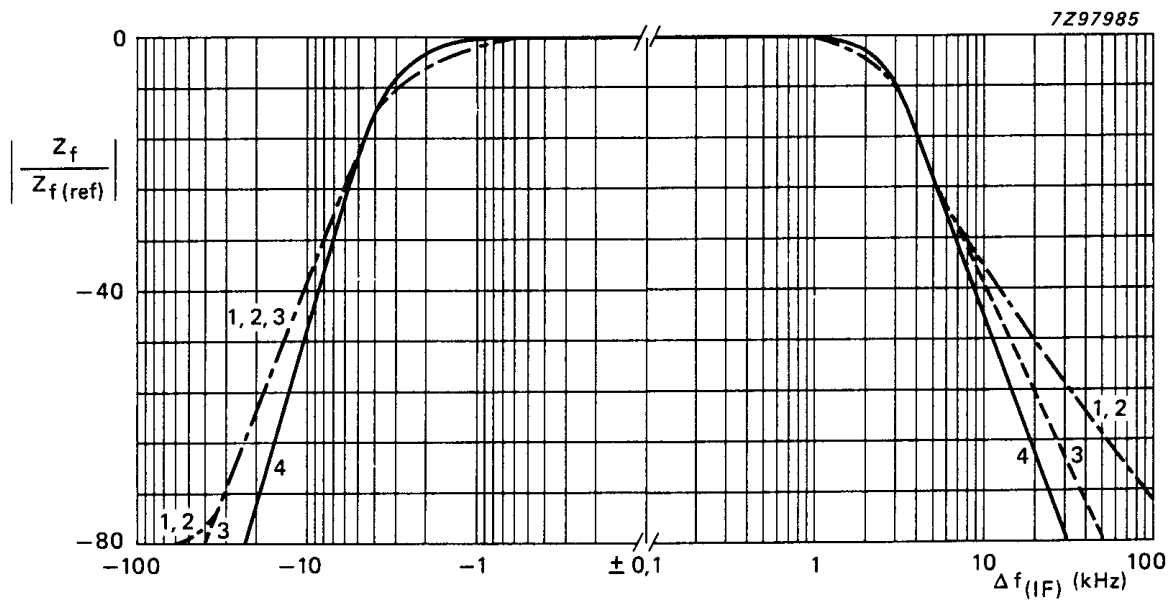
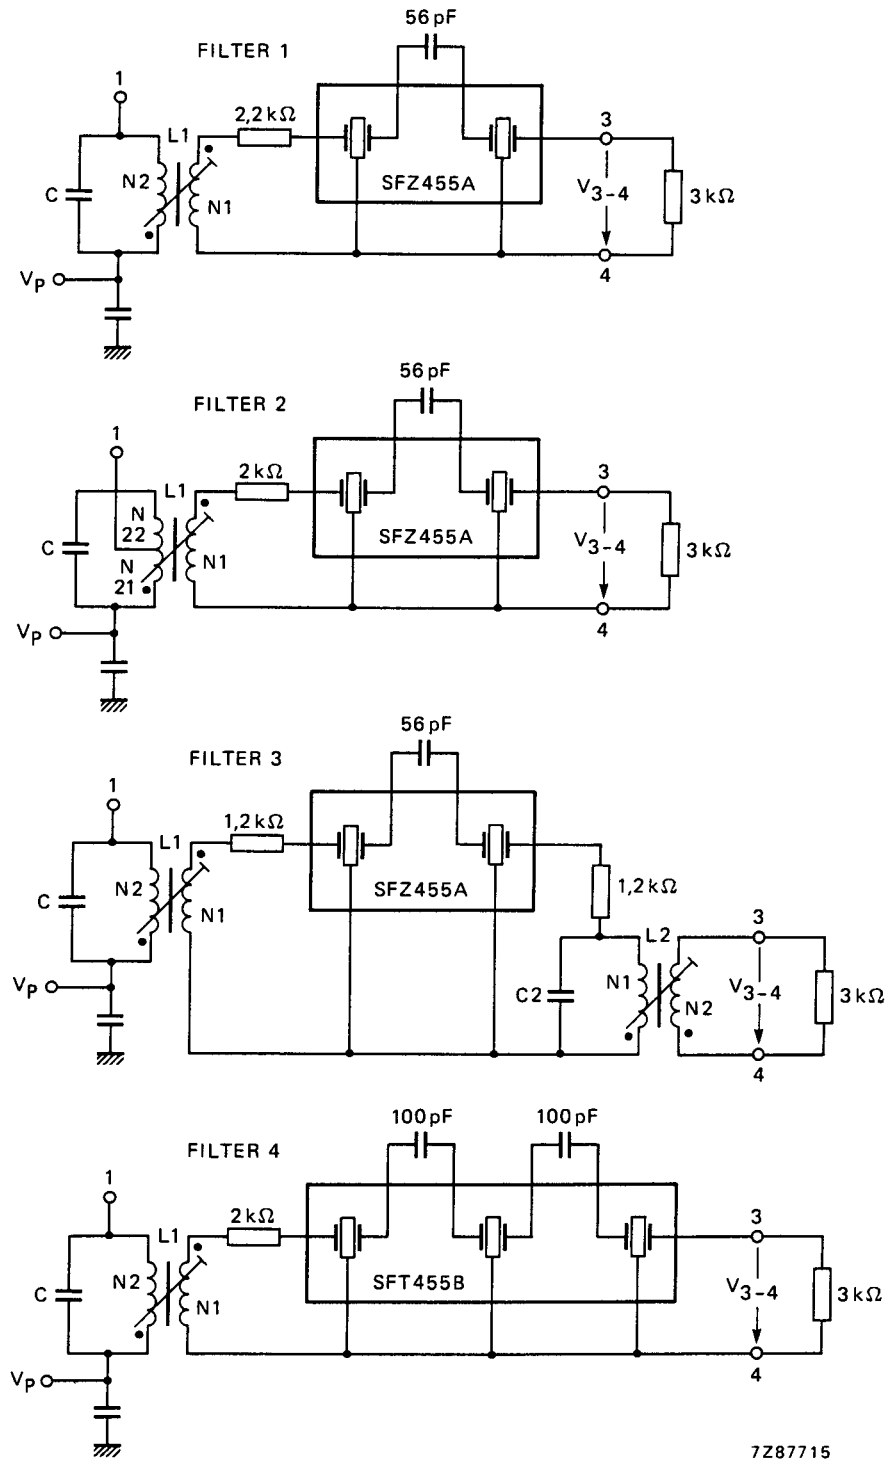

Fig.14 Forward transfer impedance as a function of intermediate frequency for filters 1 to 4 shown in Fig.15; centre frequency = 455 kHz.
Fig.15 IF filter variants applied to the circuit of Fig.1. For filter data, refer to Table 1.
**Table 1** Data for IF filters shown in Fig. 15. Criteria for adjustment is  $Z_F = \text{maximum}$  (optimum selectivity curve at centre frequency  $f_0 = 455 \text{ kHz}$ ). See also Fig. 14.